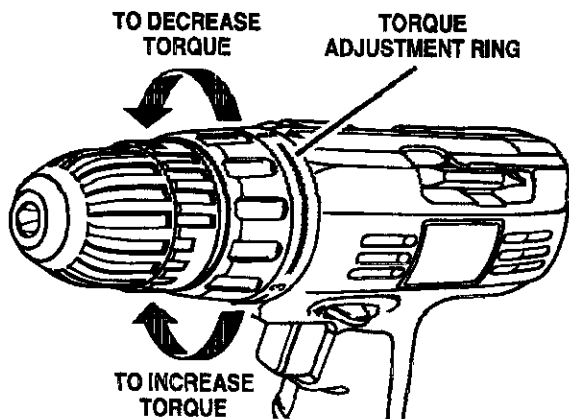

Fig. 9
The torque is adjusted by rotating the torque adjustment ring. See Figure 9. The torque is greater when the torque adjustment ring is set on a higher setting. The torque is less when the torque adjustment ring is set on a lower setting.
- Identify the four torque indicator settings located on the front of your drill. See Figure 9.